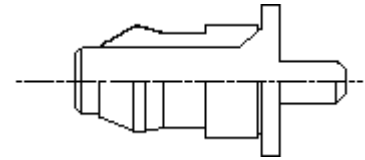

Figure 25. Setting the sleeve
- Install to insertion tool JT-C3 the sleeve holder and then the sleeve as shown in Figure 25. (For applicable sleeve holders, refer to Table 11).